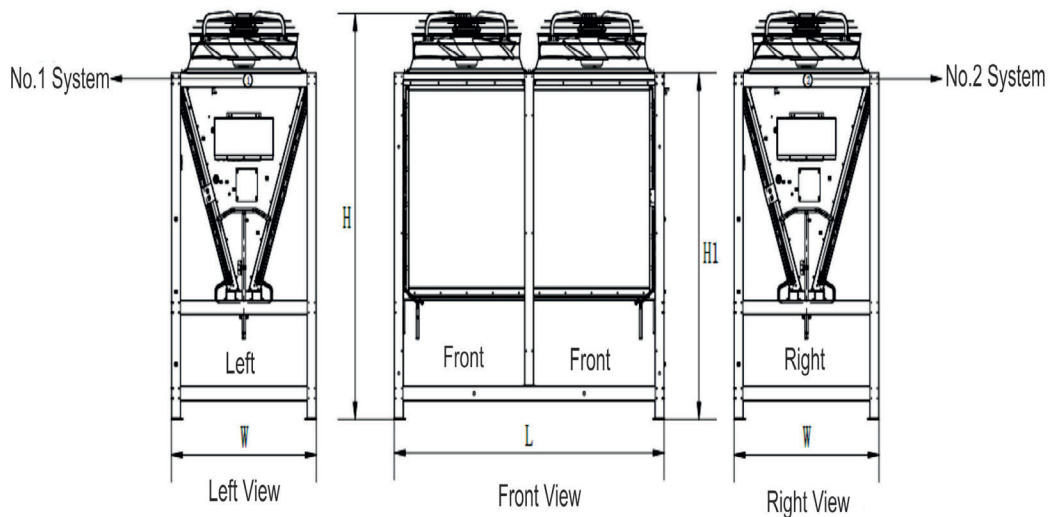

Figure 3-1 Condenser Structure
The condenser structure is shown in Figure 3-1. The mechanical parameters of each model are listed in Table 3-3.
- Figure 3-1 shows the serial number labels to determine system 1 and 2. There will be stickers with serial numbers pasted on LVC condensers to identify each system.